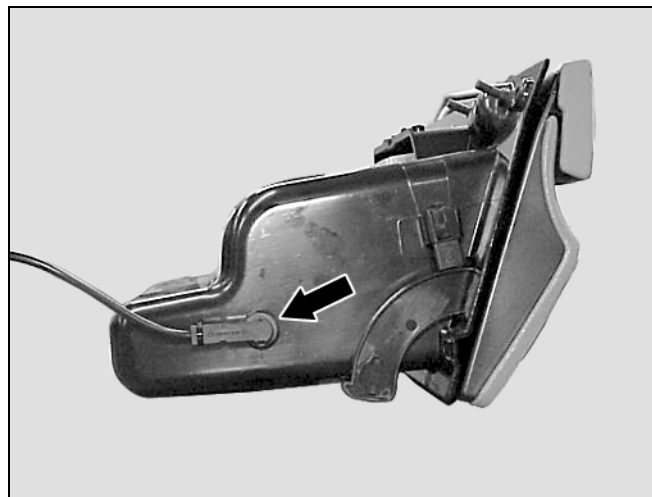

Figure 3
5. Insert the auxiliary input connector into the drilled hole from outside the glove compartment (Figure 3).